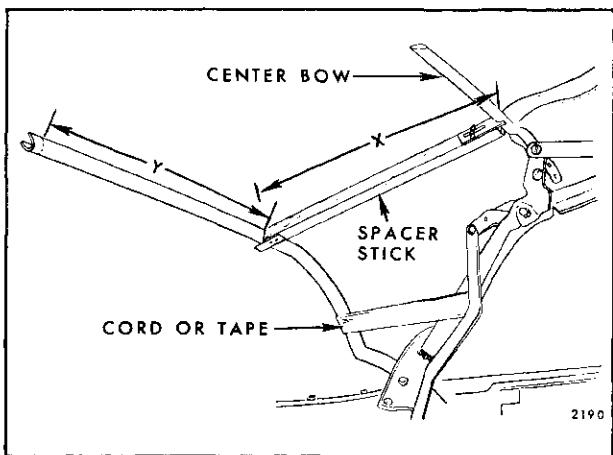

Fig. 13-9—Spacer Stick Installation
23. Lock top to windshield header. Install radius end of each adjustable spacer stick to fit against center roof bow. Install opposite end of spacer stick so that metal plate fits under rear roof bow. Spacer sticks should be installed along inboard edge of side stay pad (Fig. 13-9).
25. Temporarily tie or tape rear bow to rear side roof rails. (See Fig. 13-9.) Detach side stay pads and back curtain assembly from rear bow.
1. If new top is being installed but it was impossible to perform step 24 of removal procedure, pre-set spacer sticks to shortest length and install between center and rear roof bow (Fig. 13-9). Adjust sticks so that dimension "X" in Figure 13-9 (measured along spacer stick from front upper rolled edge of rear roof bow to center of center bow) is 16-1/16" on "B & C" Styles, 13-3/16" on "F" Styles, 18-1/2" on "A" Styles and 16-5/8" on "Z" Styles. Tie or tape rear bow to rear side roof rails.